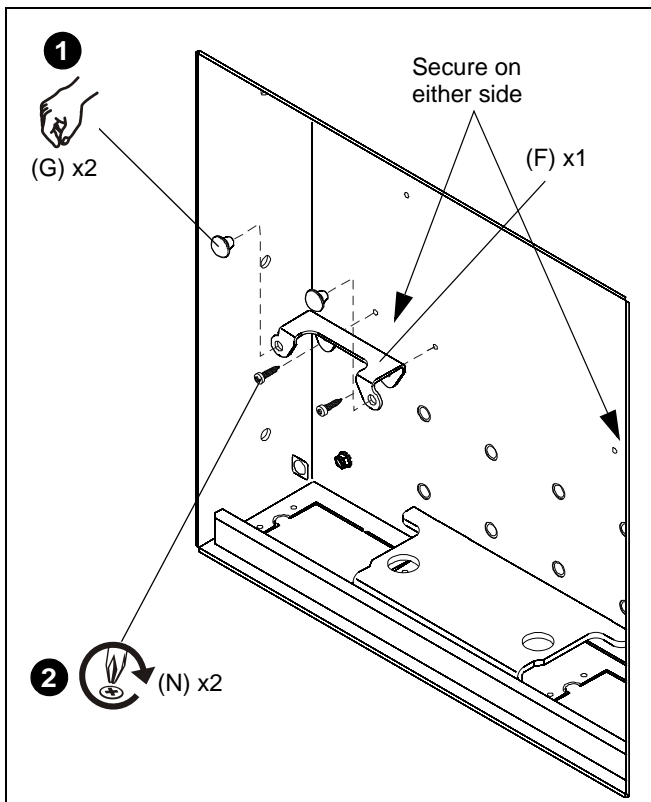

Figure 1
1. Install two bumpers (G) to bumper mounting bracket (F). (See Figure 1)
2. Secure bumper mounting bracket (F) to MAC501 on whichever side the arm is going to be retracted, using two Phillips pan head screws (N). (See Figure 1)